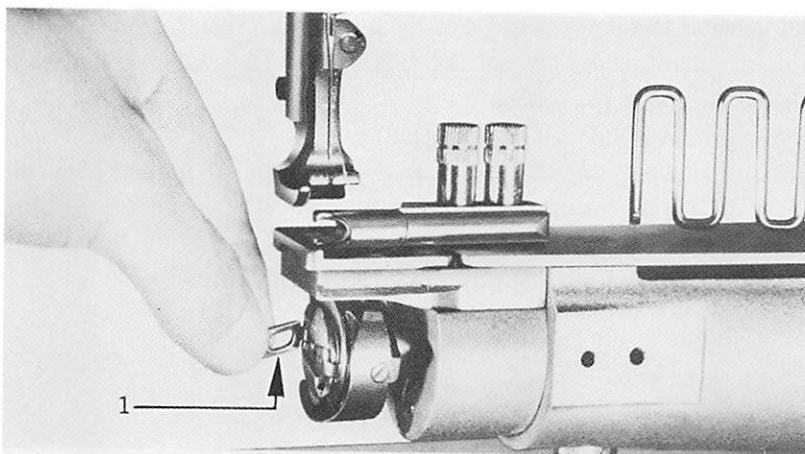

Fig. 5
## INSERTING AND REMOVING BOBBIN (Fig. 5 and 6)
2. Pull up the latch (1, Fig. 5) and draw out the bobbin from the bobbin case.
5. Draw out about 5 cm of the end of thread, pull up the latch (1, Fig. 5) keeping the slot of the bobbin case faces upper side. And fit the bobbin case into the hook as deeply as it will go, and push down the latch securely.